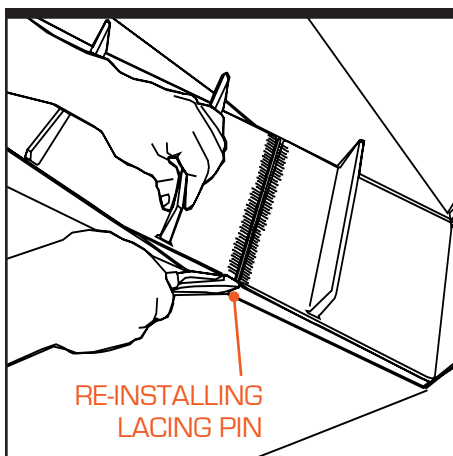

Figure 3-12. Re-Installing Lacing Pin
**Step 2—Install Belt.** Install the belt by feeding it through the prefeeder's hopper (downward), up the underside of the elevator channel, through the head, and back down the elevator channel into the hopper, cleats facing up. The belt lacings on both ends of the belt, should meet in the hopper area of the prefeeder (see Figure 3-12). You may need to remove the elevator covers (underside of the prefeeder channel) to feed the belt. Once the belt is completely fed into the prefeeder, and the lacing pin installed, replace the elevator covers.